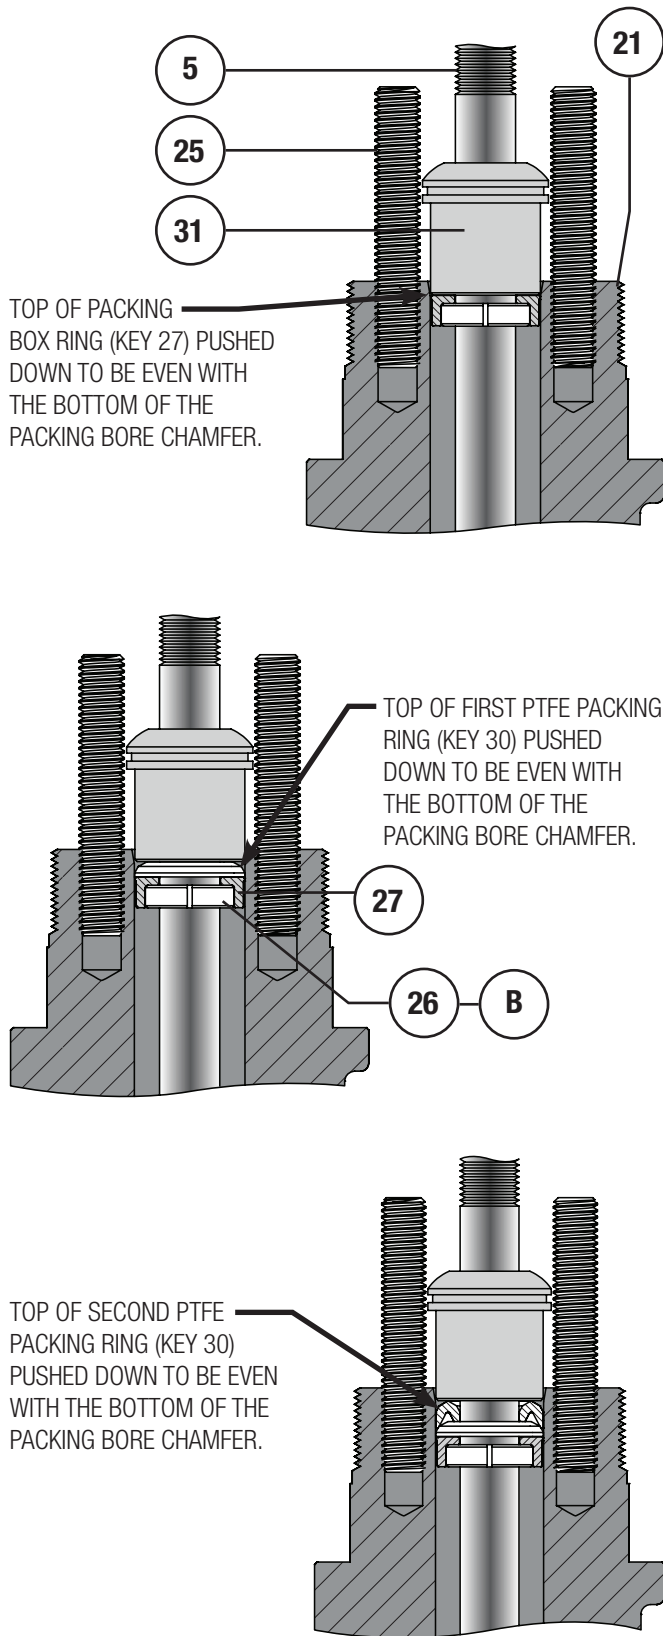
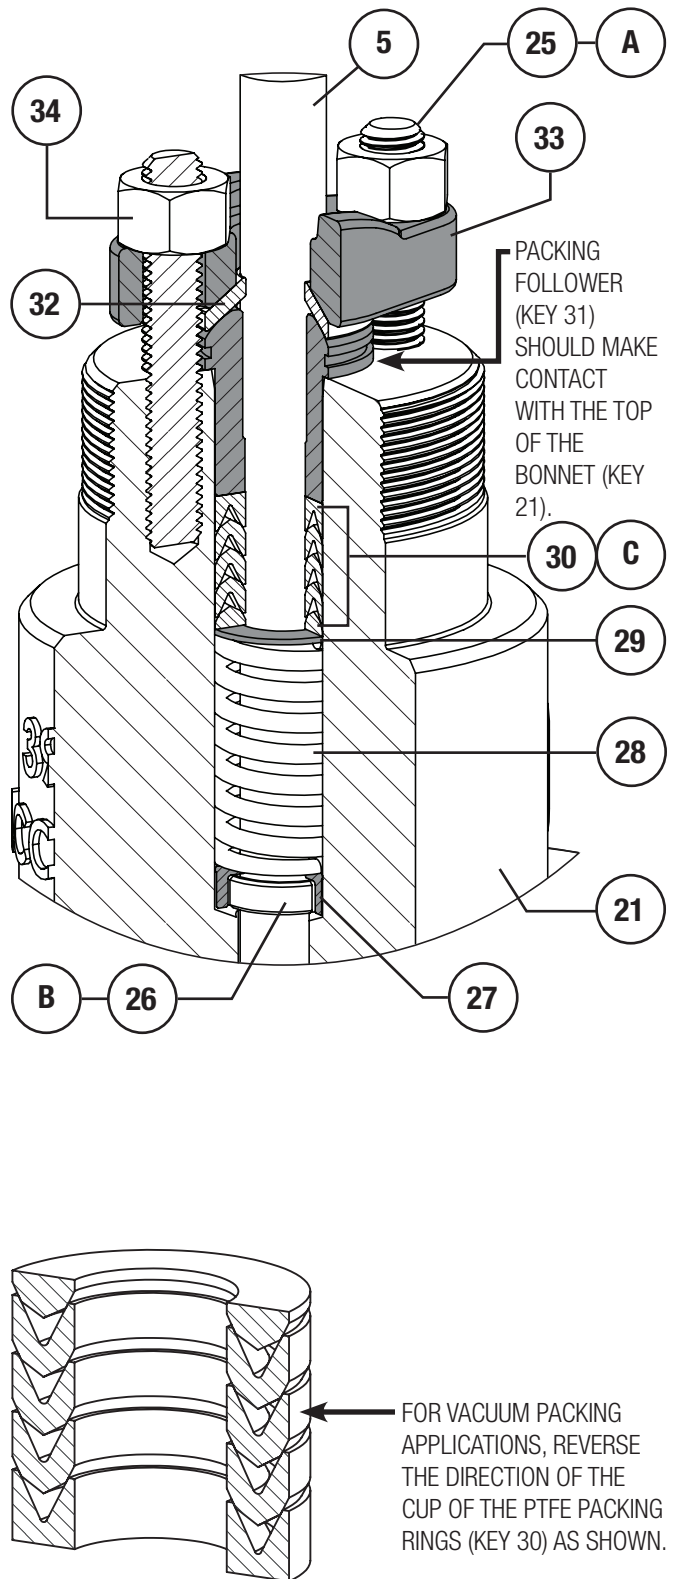

Figure 18 Proper Packing Ring Installation Technique
Figure 19 Single Style Packing Installation Diagram
NOTE: To prevent trapping air between packing during installation, it is recommended that packing rings be installed one at a time using the packing follower (Key 31) to push the packing rings in place. Do not force packing rings below the chamfer of the packing bore before adding another ring, packing rings should only be pushed down the thickness of the added ring. Refer to Figure 18.
- 4 Apply Dow Corning Molykote® 5 (Key B) to the PTFE packing rings (Key 30). Install the packing rings one ring at a time (as shown in Figure 18) in the proper order and orientation as shown in Figure 19.
- 2 Apply Dow Corning Molykote® 5 (Key B) to the first set of packing rings (Key 30). Install the packing rings one ring at a time (as shown in Figure 18) in the proper order and orientation as shown in Figure 21. **NOTE:** For 3/8" (9.5 mm) valve stems, remove a packing ring from the middle of the packing set.
- 4 Apply Dow Corning Molykote® 5 (Key B) to the second set of packing rings (Key 30). Install the packing rings one ring at a time (as shown in Figure 18) in the proper order and orientation as shown in Figure 21.
- 6 Install the remainder of the graphite filament (Key 36) and graphite ribbon (Key 37) one at a time (as shown in Figure 18) in the proper order and orientation as shown in Figure 22.